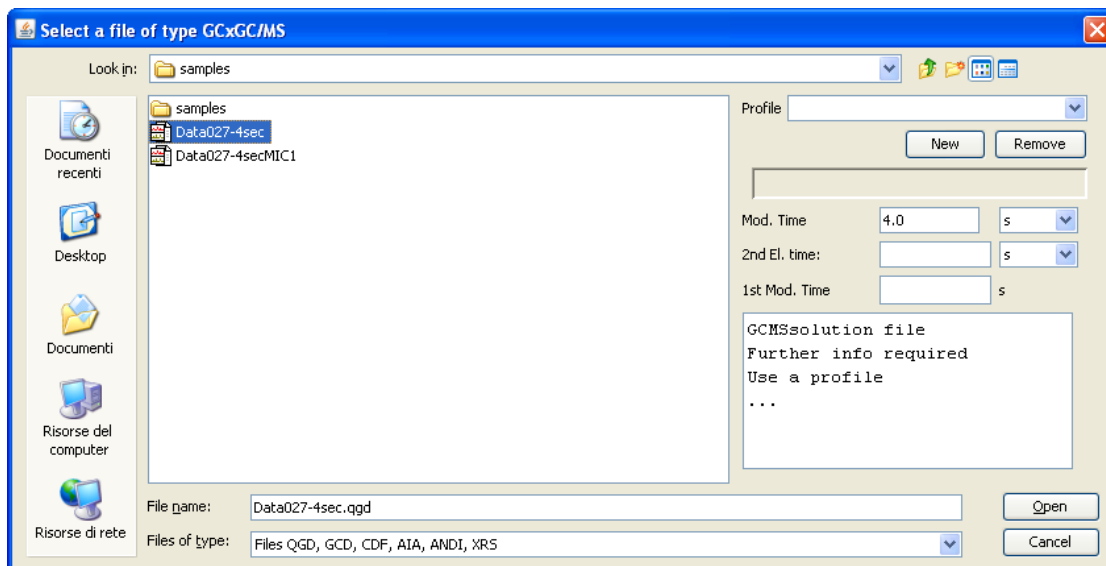

Figure 10.8: Open Dialog Box with Profile Combo Box
3. In the the upper-right side of the Dialog Box a combo box named **Profile** will be shown, together with the two buttons **New** and **Remove** (see Figure 10.8).